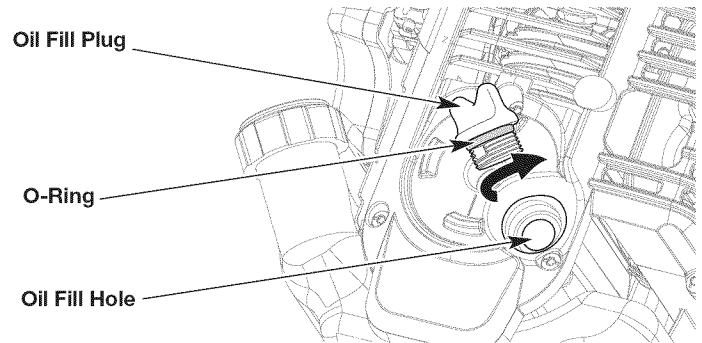

Fig. 5
4. Unscrew the oil fill plug (Fig. 5).
5. Pour the entire bottle into the oil fill hole (Fig. 5). **DO NOT** overfill. Refer to *Checking the Oil Level*.
NOTE: Make sure the O-ring is in place on the oil fill plug (Fig. 5).